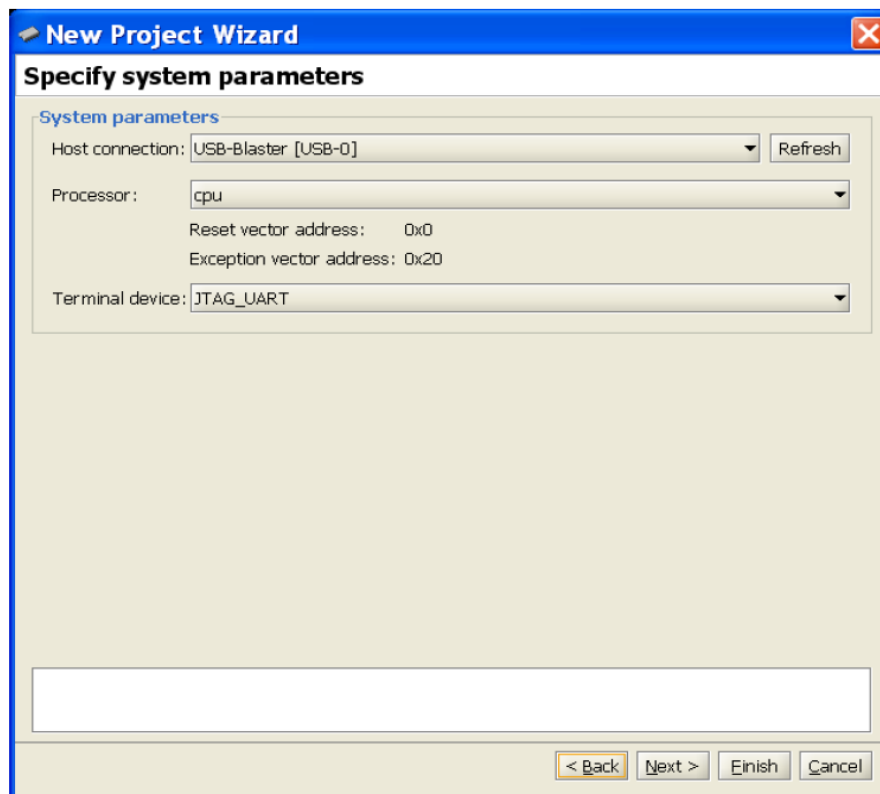
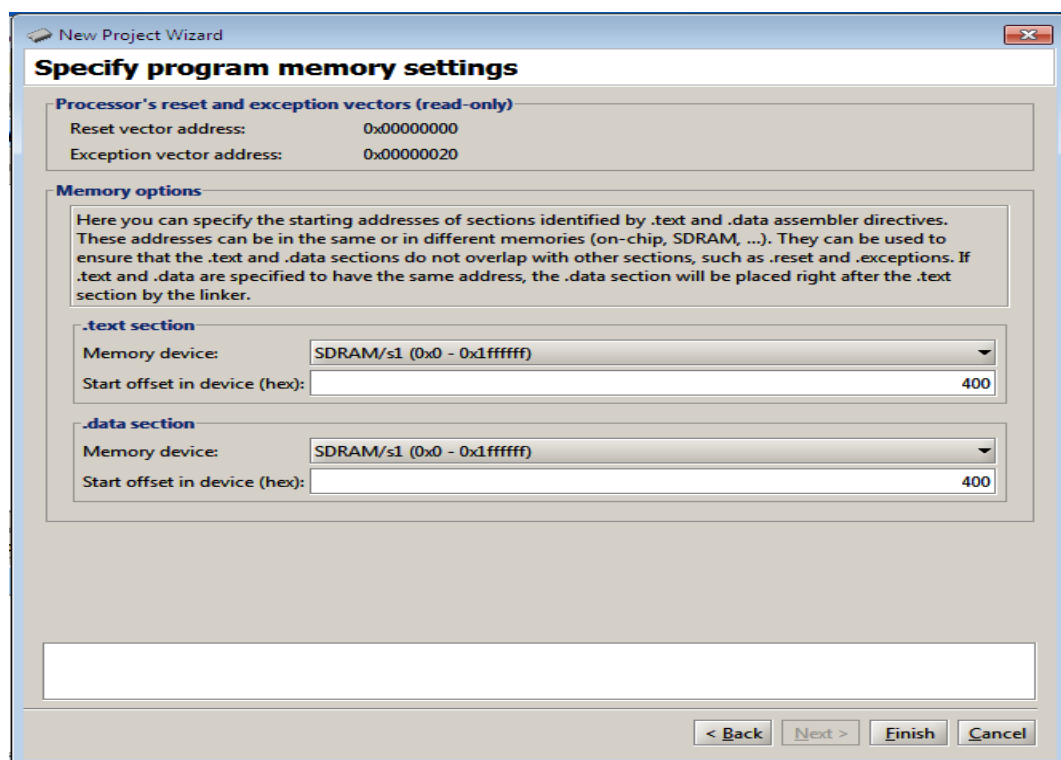
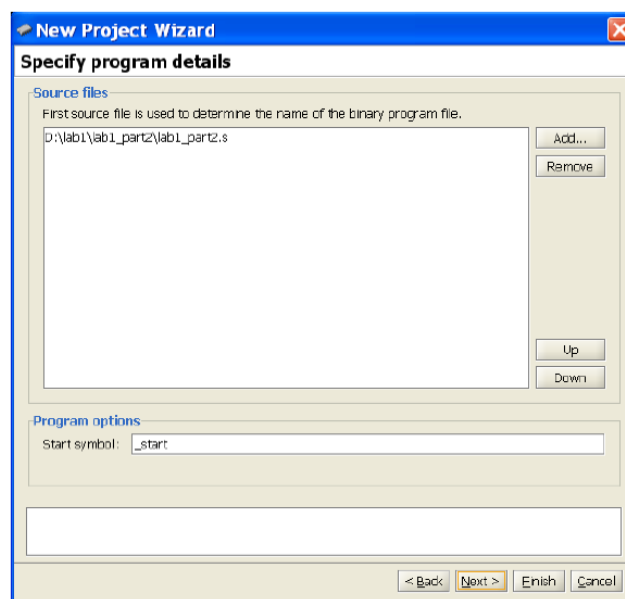

Figure 7: Specify the hardware system parameters.
Figure 8: Specify the program memory settings.
Figure 13: Select your source program.
6. The window in Figure 7 indicates some system parameters. Note that the *USB-Blaster* cable is selected to provide the connection between the DE0-Nano board and the host computer. Click **Next**.
7. The window in Figure 8 displays the preselected components of the DE0-Nano Basic Computer. Observe that the SDRAM is selected as the memory device to be used. The start offset is `0x400`, which means that the application program will be loaded in the memory locations that begin at address 400 in hexadecimal format. Since this choice was made by the designer of the sample program, you cannot change the selection in Figure 8. Click **Finish** to complete the specification of the new project.
3. Upon reaching the window in Figure 6, you have to specify your program. Click **Add** and in the pop-up box that appears indicate the desired file name, `lab1_part2.s`, and its location. This should lead to the image in Figure 13. Click **Next** to get the window in Figure 7. Again click **Next** to get to the window in Figure 8. Make sure that the SDRAM is selected as the memory device. Note that the *Start offset in device* will be 0, because the program in Figure 11 does not indicate that it should loaded at a location that is different from the default location 0. Click **Finish**.